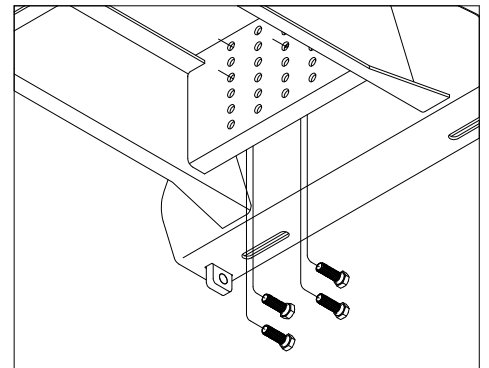

FIGURE: A2: View under base.
2. Locate both pivot arms, eight 1/2" cap screws, eight 1/2" split lock washers, and eight 1/2" nuts. Identify the mounting holes needed to mount the arms in their optimal location. Pass four 1/2" cap screws through the bottom of the base into the bolt plate, as shown in figure A2.